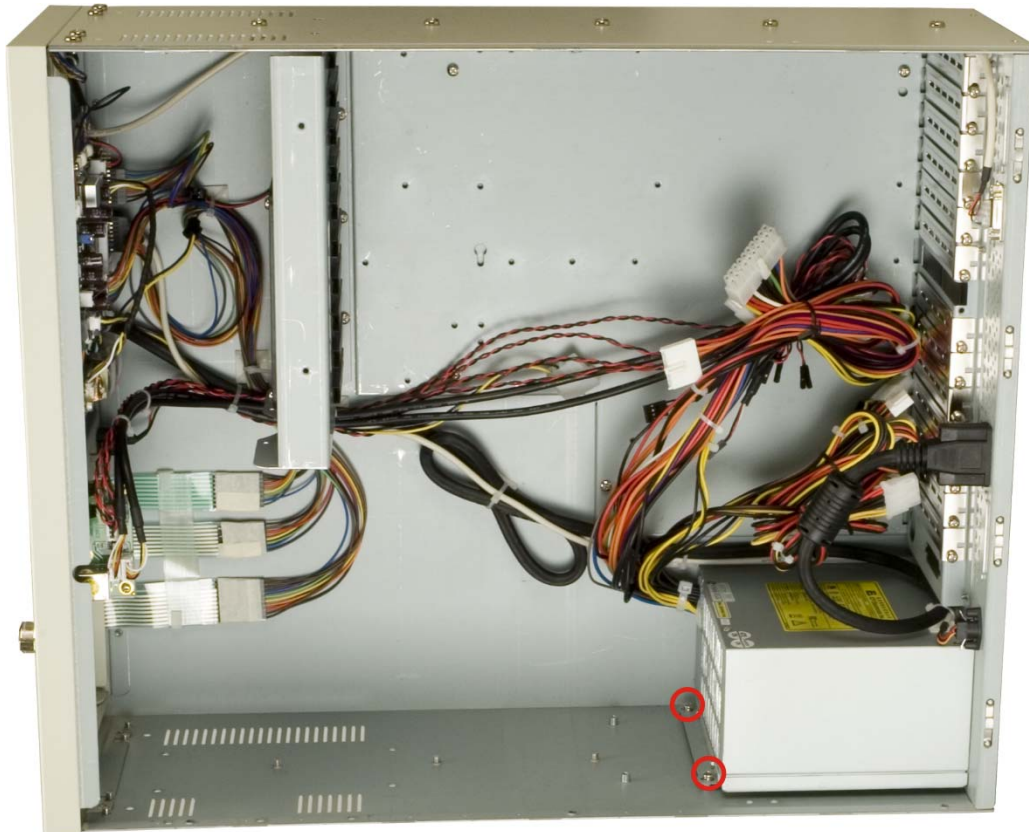

Figure 5-2: PSU Internal Retention Screws
Step 7: Remove the two internal retention screws that secure the PSU assembly to the right side panel of the workstation (**Figure 5-2**).